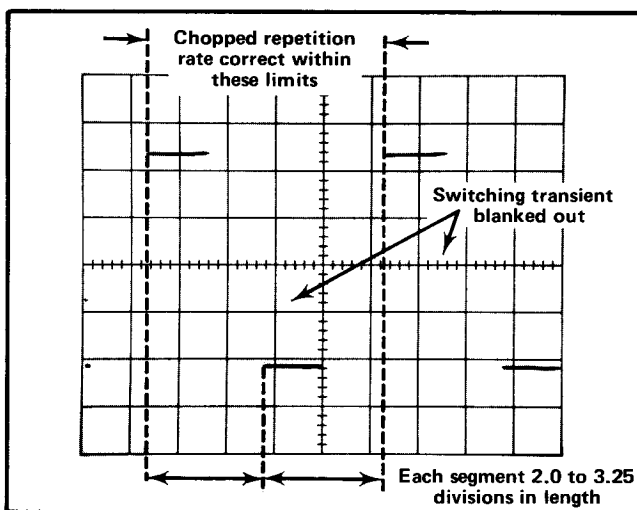

Fig. 5-1. Typical CRT display when checking chopped repetition rate and blanking.
c. CHECK—Duration of each cycle of the chopped waveform is about five divisions (see Fig. 5-1).
d. CHECK—Length of each segment is between 2.0 and 3.25 divisions (400 to 650 nanoseconds; see Fig. 5-1).
e. CHECK—CRT display for complete blanking of switching transients between chopped segments (see Fig. 5-1).